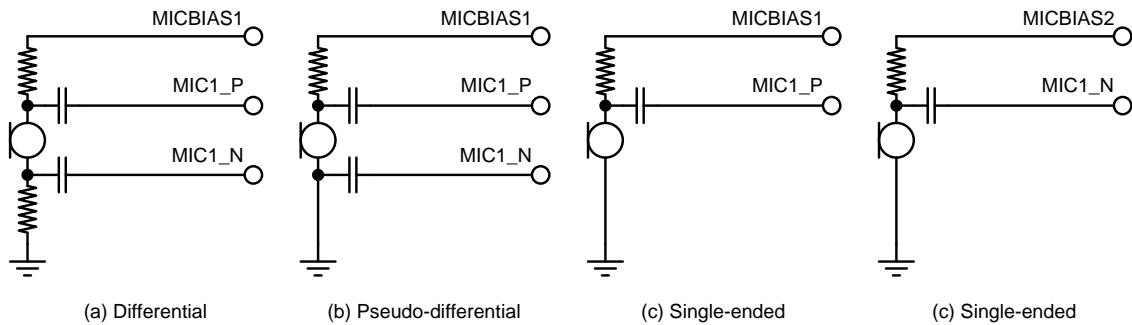

Figure 7: Typical microphone application for MIC1 (MIC2 is similar)
- single ended or pseudo-differential mode by connecting MIC1\_N or MIC2\_N to GND (see Figure 7). The microphone source is specified using MIC\_1\_AMP\_IN\_SEL and MIC\_2\_AMP\_IN\_SEL
- single ended or pseudo-differential mode by connecting MIC1\_P or MIC2\_P to GND (see Figure 7). The microphone source is specified using MIC\_1\_AMP\_IN\_SEL and MIC\_2\_AMP\_IN\_SEL
Single channel and dual channel digital microphone modules are supported. The dual channel modules change the output data on both the rising and the falling edges of the clock, as illustrated in Figure 7. In this case DMIC\_SAMPLEPHASE must be set to zero in order to enable the sample detection at the edges of the clock. Each DMIC input is enabled via DMIC\_L\_EN / DMIC\_R\_EN and is associated with a clock edge via DMIC\_DATA\_SEL control.